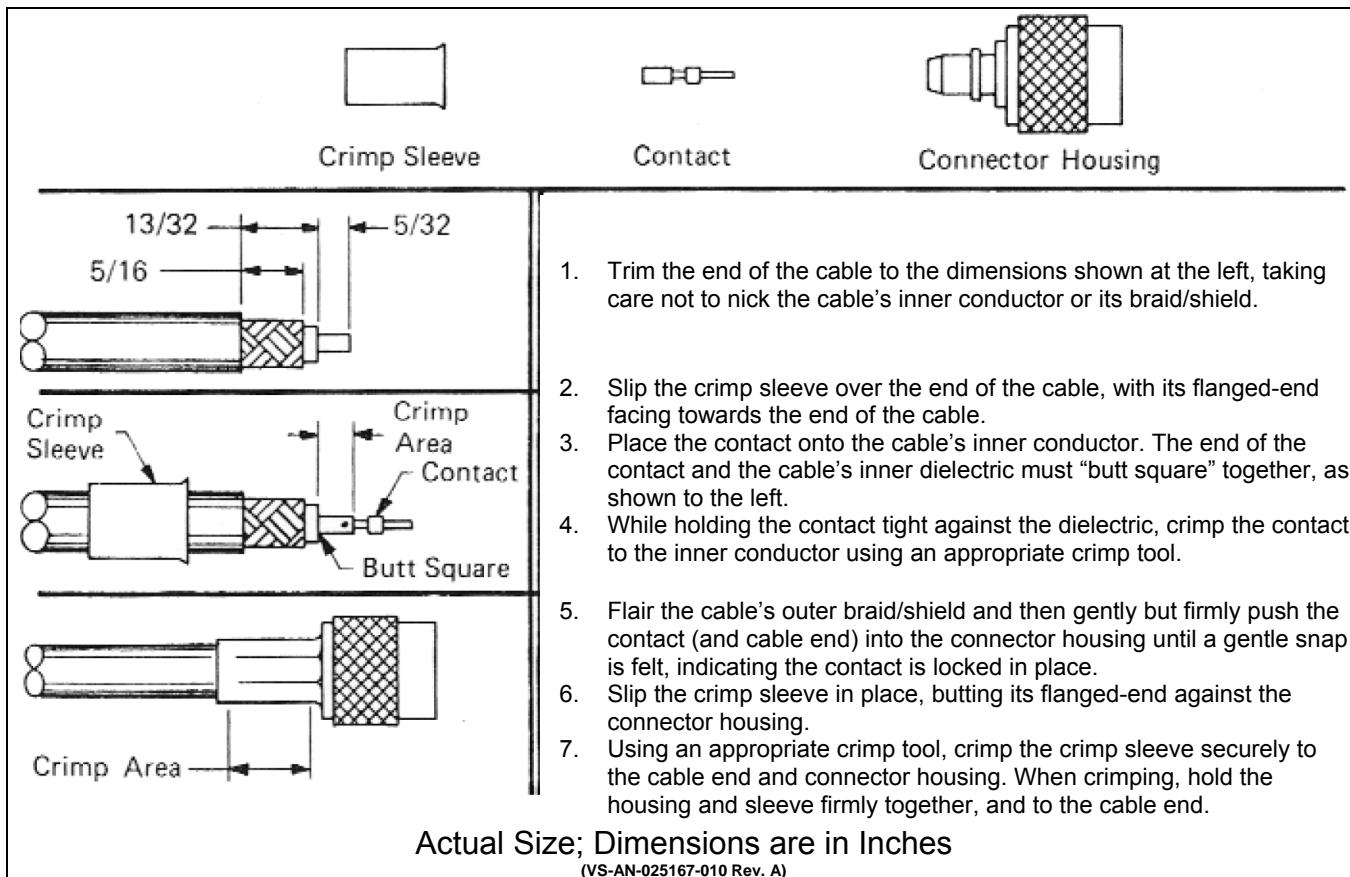

Figure 6-4: Crimping Instructions for TNC RF Connector
2. Using an appropriate crimp tool, crimp the supplied TNC RF connector to the end of the antenna cable. For crimping instructions, see Figure 6-4 or the instructions supplied with antenna mount.